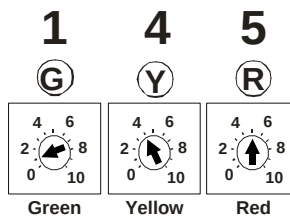

FIGURE 5
12. Before reinstalling the fuel tank bolts and the seat, verify your connections. Remove the door from the Fi2000 box to expose the LED's. The pot settings on the Fi2000 must be set to match the proper intake and exhaust configuration - Refer to Figure 5 and the **Advanced Tuning** section below to determine the proper configuration. Once the proper pot setting have been chosen set the pot dials using a small flat blade screwdriver.
13. Verify the wire connections by (1) turning the ignition on, prior to starting, and see if all three LED's are on steady. If you have no light, your ground connection (BLACK wire) has not made proper contact or the injector connections are not complete. (2) After achieving a steady light from all three LED's, start the motorcycle, wait 15 seconds and let it idle, the green light should now be the only LED on. If all three LED's are still on after start up, verify you have attached the injector connectors correctly. Reattach the door when finished. **Note:** Make sure the ignition is turned off before changing any connection.
Your Cobra® Fi2000 fuel injection module has been tested and preset for best function and rideability on a motorcycle with aftermarket aircleaner and Cobra slip-on mufflers. If your motorcycle has a different intake and exhaust configuration please choose the appropriate pot setting in Figure 5, and change the pot dials to these settings. Remove the door to expose the pots shown in Figure 5. The Fi2000 does have 3 important adjustments that allow you to tune the module for optimum performance, especially if you have performed other changes to your motorcycle. These adjustments also allow you to resolve drivability issues if our stock settings are not exactly right for your bike. Make sure your motorcycle is up to normal operating temperature (15 minutes of riding should be sufficient) before making any adjustments.